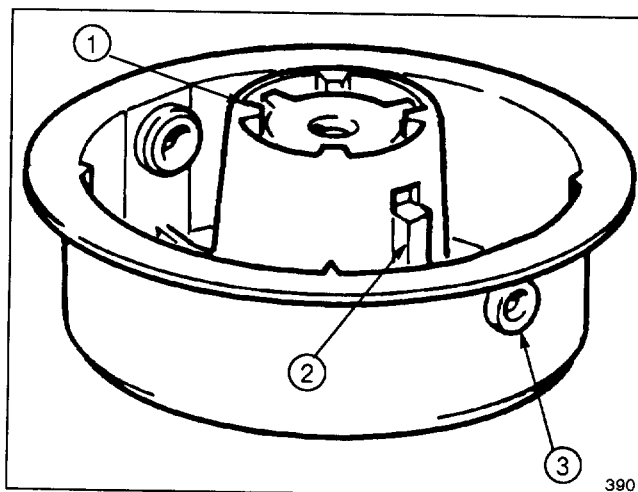
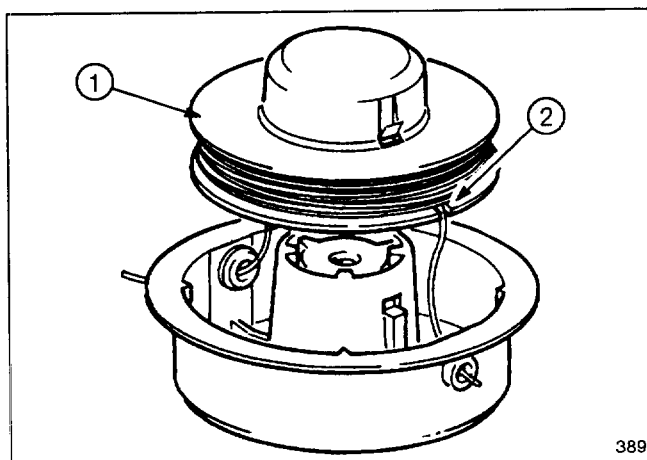

Figure 12
Figure 13
- D. The spool and core are keyed and **must** be properly aligned when putting spool back on. Push downward on spool core and rotate it until "key" feature on the core is aligned with the eyelets on the drum (Fig. 12). With lines still retained in spool notches, thread ends of lines through eyelets (Fig. 13). Place spool onto keyed spool core; the spool notches must be aligned with eyelets and spool core key (Fig. 13). Push spool inward until you hear it click. Pull lines outward while pushing spool inward to free lines from notches. Unwind no more than six inches of line from spool. To extend lines, pull lines out while pushing spool inward. To retract lines, rotate spool clockwise while pushing spool inward.